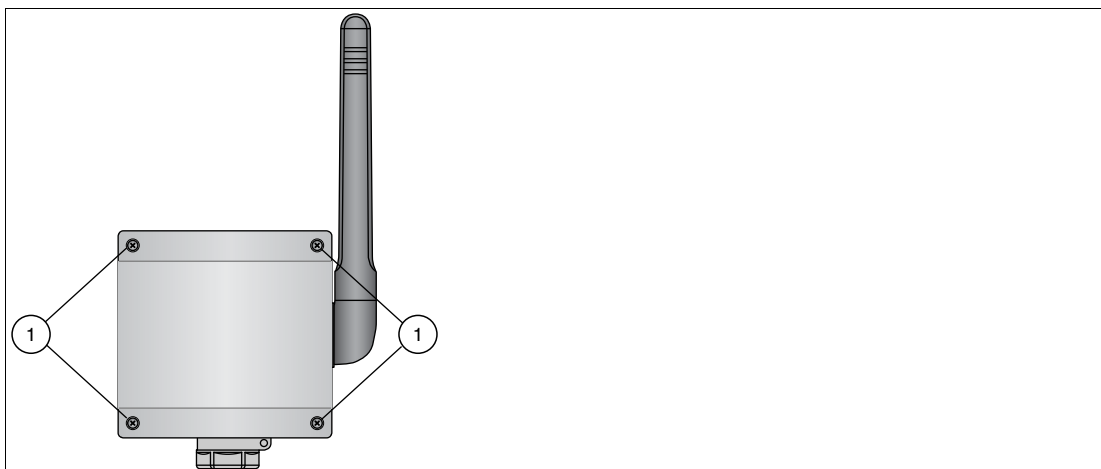

Figure 3.16 Opening the cover
1. If necessary, open the adapter cover by unscrewing the four captive Phillips screws. → see Figure 3.16 on page 24
1. If necessary, open the housing cover by unscrewing the four captive Phillips screws. → see Figure 3.16 on page 24